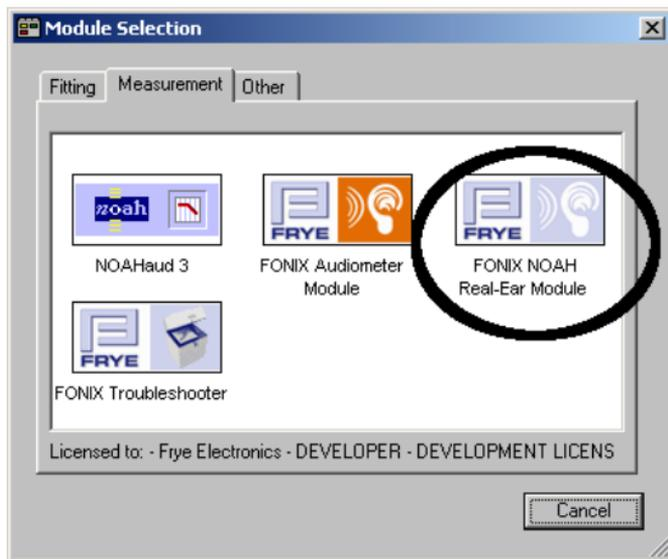

Figure 1: Module selection window
3. Select the **Measurement** tab and click the **FONIX Real-ear Module** button. This will open the FONIX NOAH Real-ear Module. See Figure 1.